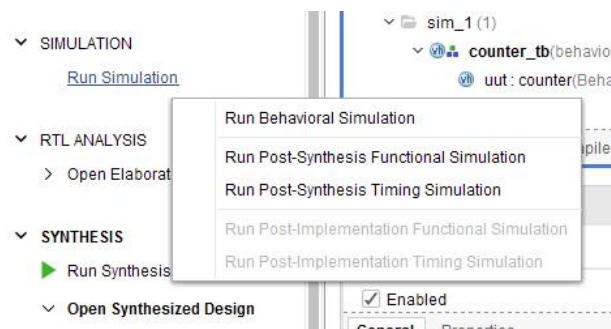

Figure 23
2. A drop-down menu opens with the currently available simulation possibilities (Figure 23)